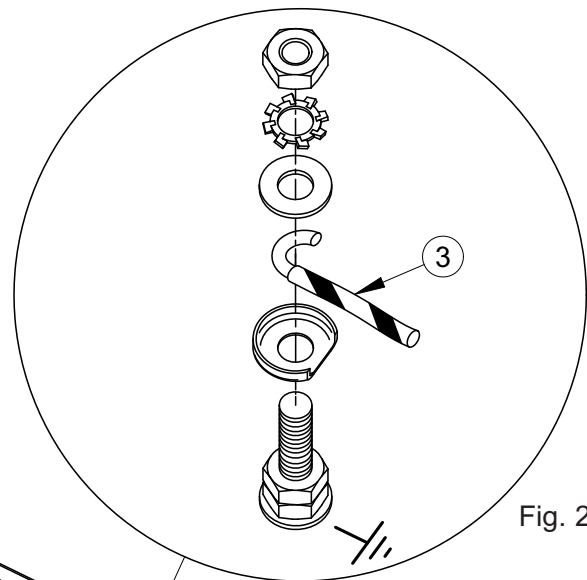

Fig. 20
4. Consolidate the stranded conductor ends by twisting and shape the earth conductor as shown in Fig. 20 (item 3).
5. Remove earth terminal post clamping components and assemble as shown in Fig. 20 ensuring shaped conductor is orientated as shown and all strands of the conductor are clamped between the washers.